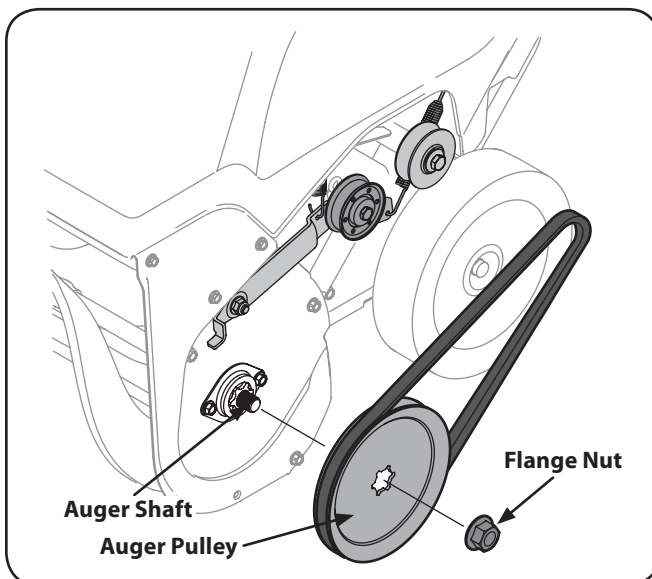

Figure 7-2
5. Remove the flange nut that secures the auger pulley to the auger shaft. See Fig. 7-2.